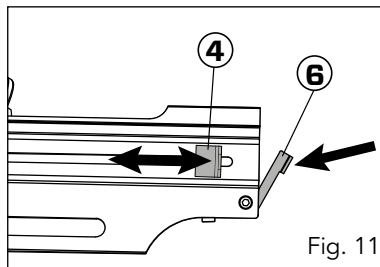

Fig. 11
4. Release the magazine feeder (4) by pushing backward and holding. Now release the feeder latch (6) and allow the magazine feeder (4) slide forward to the driving mechanism (fig. 11).